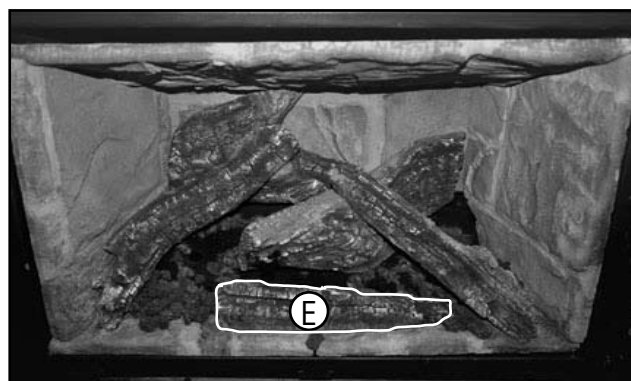

Figure 26
6. Place the front log (E) as shown in **Figure 26**, making sure no burner ports are covered. Place the decorative lava rock around logs as desired, again making sure there are no ports or holes covered.
7. **Figure 26** shows the complete set of ceramic logs in the correct locations.